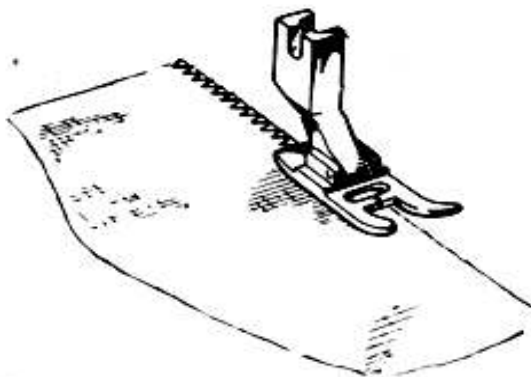

Fig. 39
*Presser foot*: use foot for zigzag sewing. Needle must stitch into the fabric and out of its edge alternately (Fig. 39).